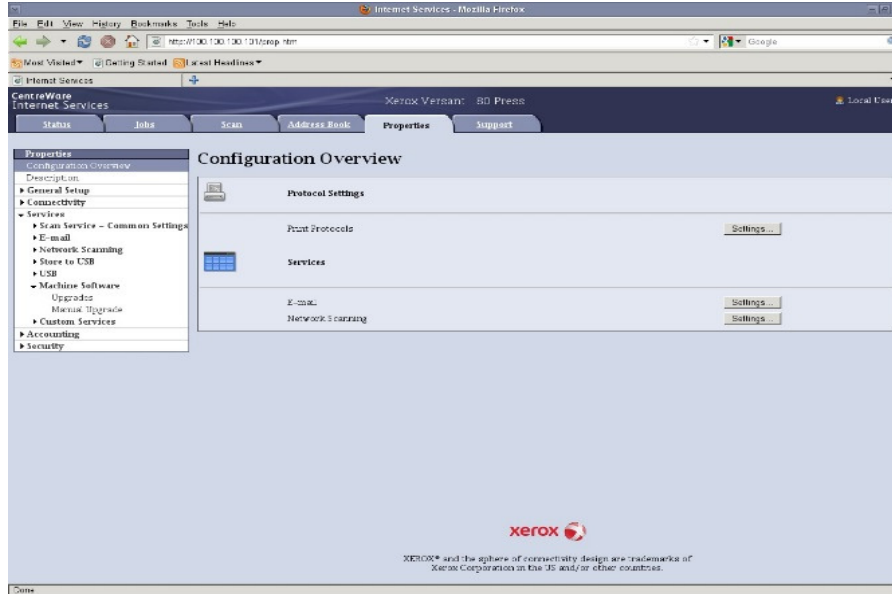

Figure 2
- Click on the Properties tab. If prompted, enter the User Name (default is admin) and the Password (default is 1111). Screen from Figure 2 will display.